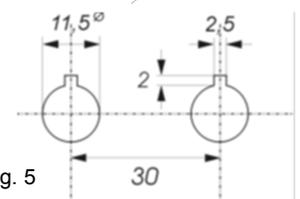

Fig. 5
- drill hole of 11.5 mm dia., with nut 2.5 x 2 mm for twist protection (Fig. 5)